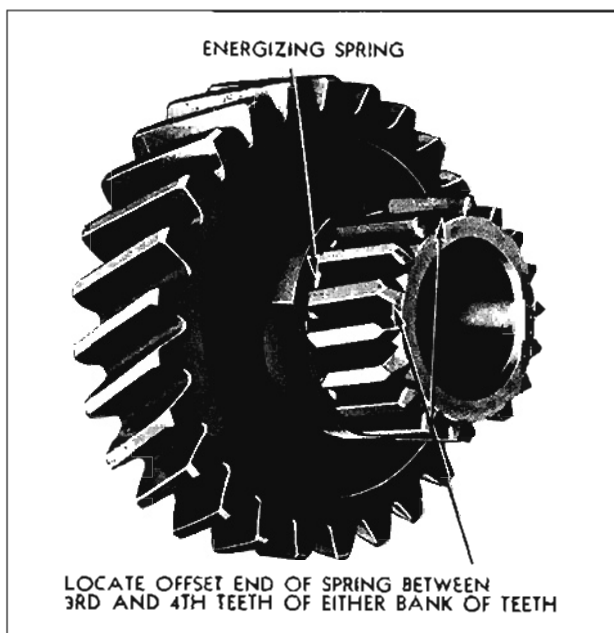

Fig. 7-119 Position of Energizing Spring
1. It will be noticed upon examining these springs that one of the ends is slightly offset. Each spring must be assembled in its groove in the clutch gear and the second-speed gear with the offset or locking end between the third and fourth teeth of either of the two banks of teeth on these gears, thus keeping the spring from turning in its groove. (Fig. 7-119)